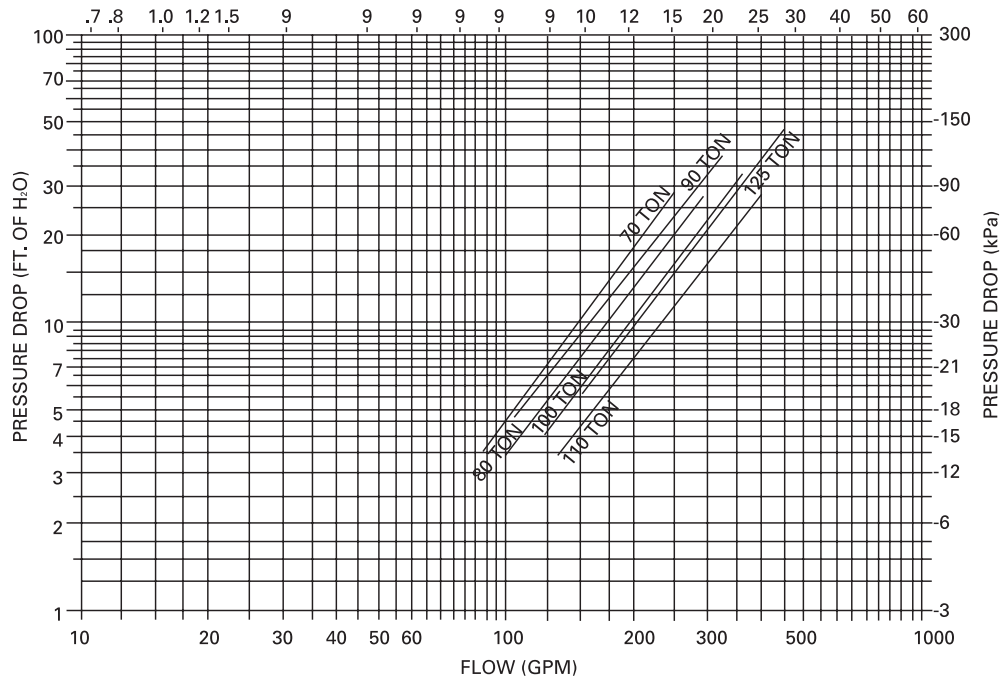

Figure 16 RTAA Evaporator Water Pressure Drop
3. Adjust the switch to open when water flow falls below nominal. Evaporator data is shown in Figure 16 Refer to Table 1 for minimum flow recommendations. Flow switch contacts are closed on proof of water flow.